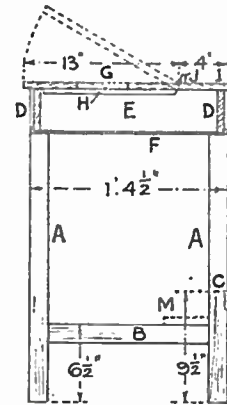
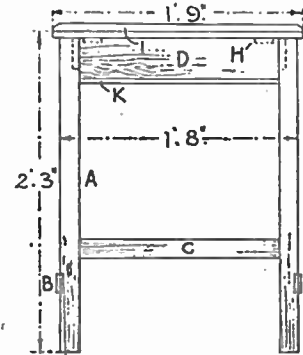
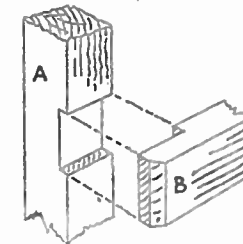

Fig. 2
Fig. 3
Fig. 5
The general appearance of the desk is shown in the sketch. The lid is shown closed in this drawing, but in the cross section at Fig. 2 it is shown raised. Simple woodwork joints are used in the construction of the desk; plain lapped joints and easily cut open—tenon and mortise joints at the extreme top of the legs.
Fig. 5, which shows also how the ends of rails (B) and (C) will be cut to fit the above recesses. Note that the recesses of the rails (B) and (C) in all cases are not cut in more than ¼ in. so as not to weaken both legs and rails. The pair of legs at the rear of the desk have also shallow recesses cut in them to take the horizontal rail (C). The distance up of this rail is given in Fig. 2, and is shown also in Fig. 3, which is a front view of